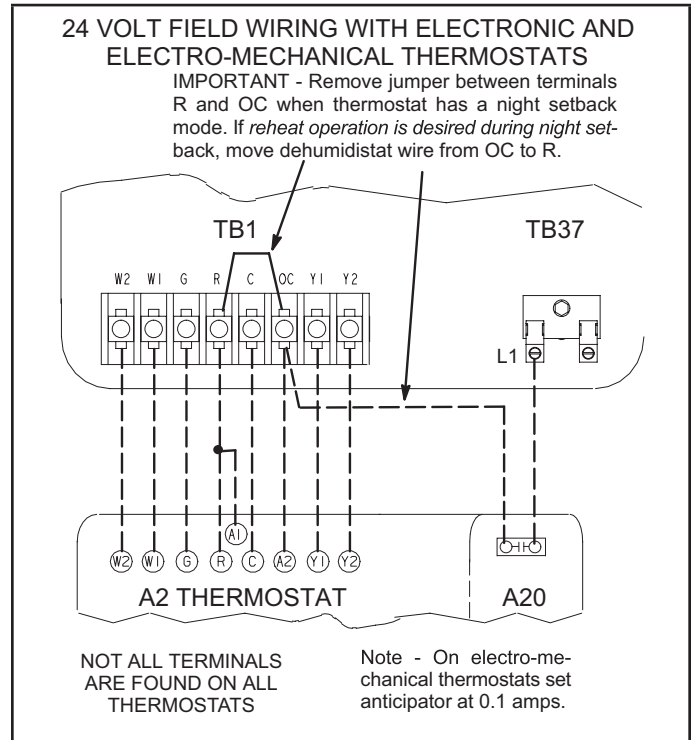

FIGURE 14
- 3 - Connect thermostat wiring to TB1 terminal board on the lower side of the controls hat section. Wire as shown in figure 14 for electro-mechanical and electronic thermostats. If using other temperature control devices or energy management systems,
- 2 - Connect dehumidistat and/or thermostat wiring to TB1 and TB37 as shown in FIGURE 14.